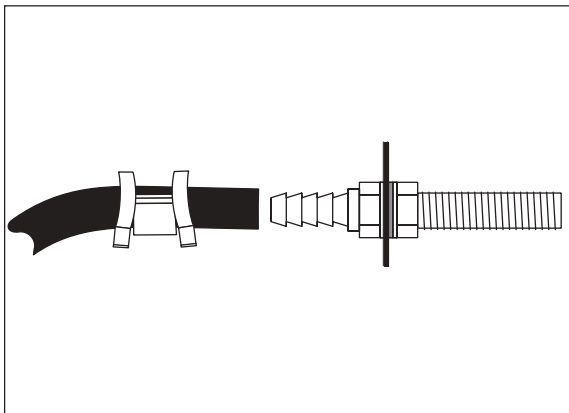

Figure 4
- k. Slide air line clamp over the air line. Push air line onto fitting covering all barbs, with pliers slide the air line clamp forward until it fully covers the barbed section (Figure 4).